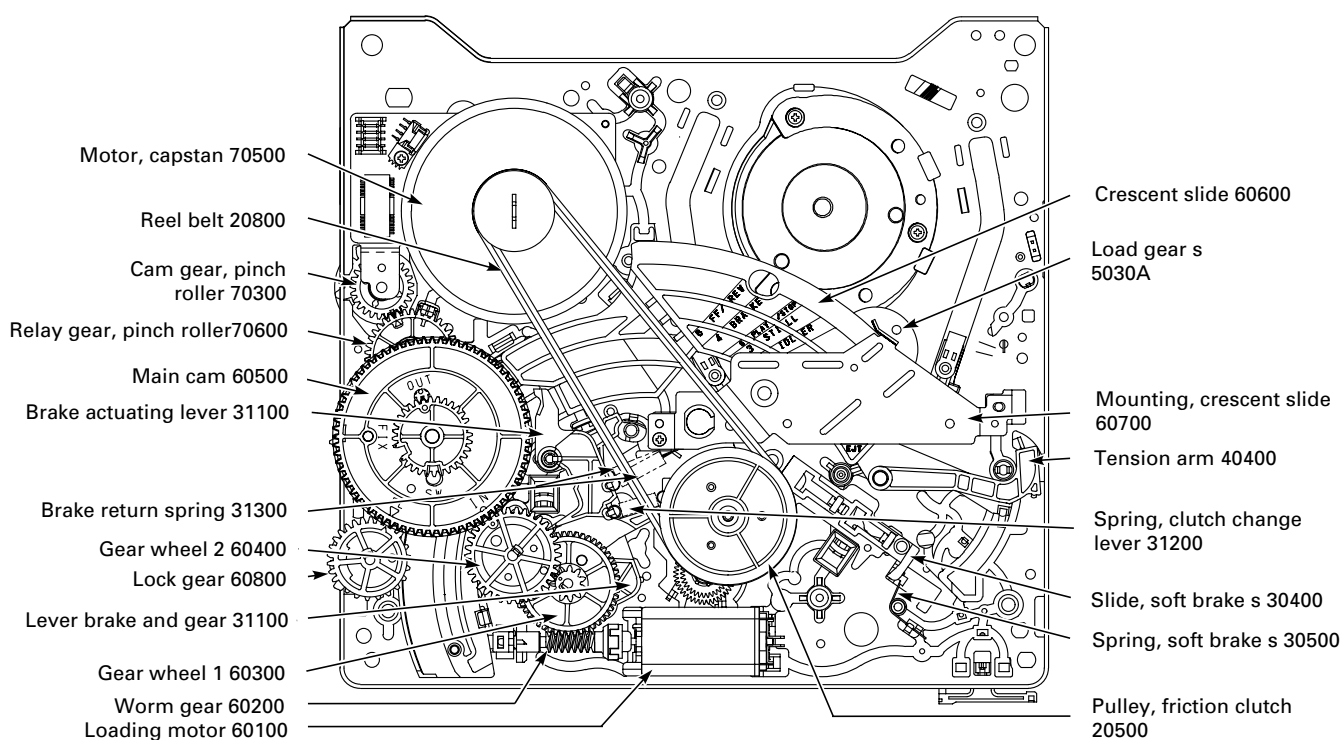

Fig. 4.3
- The mechanism operating modes can be checked by rotating the worm gear (60200) at the loading motor (60100) or by rotating the gear wheels (60300, 60400 and 60500) with the worm gear (60200) removed (Fig. 4.3).